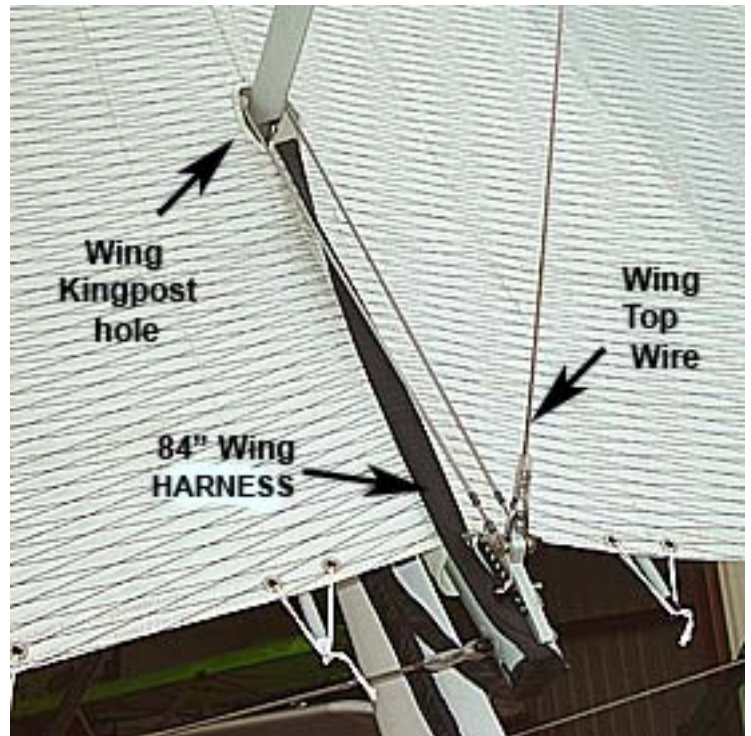

Figure 6-5
- 6.7 Bring the 84" Wing Harness to the top of the wing, over to the wing kingpost hole in the wing sail, and route the Harness through the kingpost hole as shown in Figure 6-5.